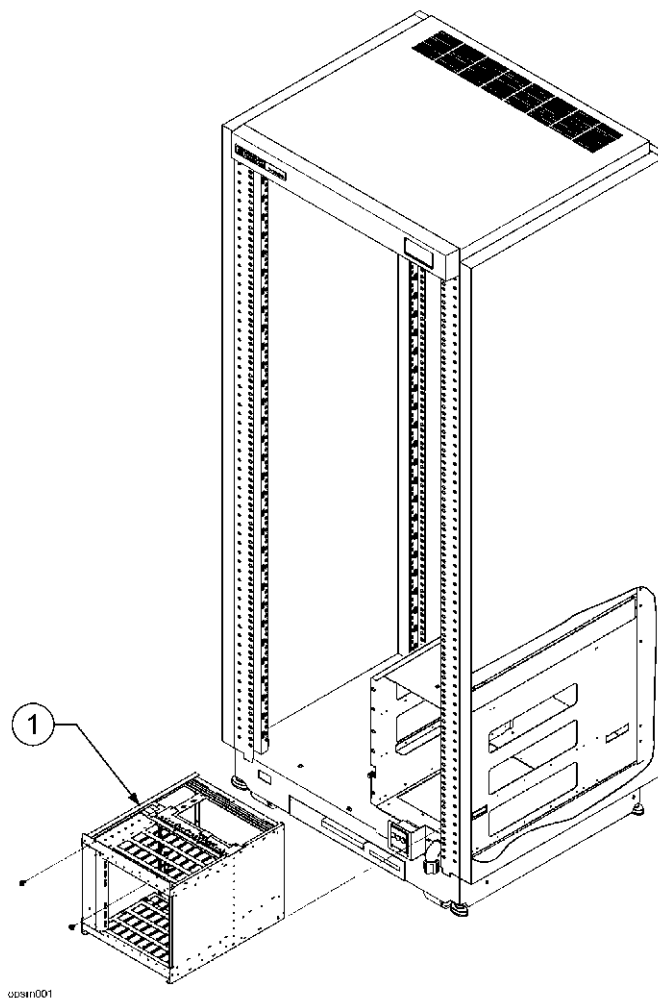

Figure 7-32 Removing the HP-PB I/O Card Cage
Refer to Figure 7-32 while performing these steps:
5. From the front of the cabinet, push the card cage (item 1 in Figure 7-32) toward the rear of the cabinet. Then pull the card cage out from the back of the cabinet along its rails.